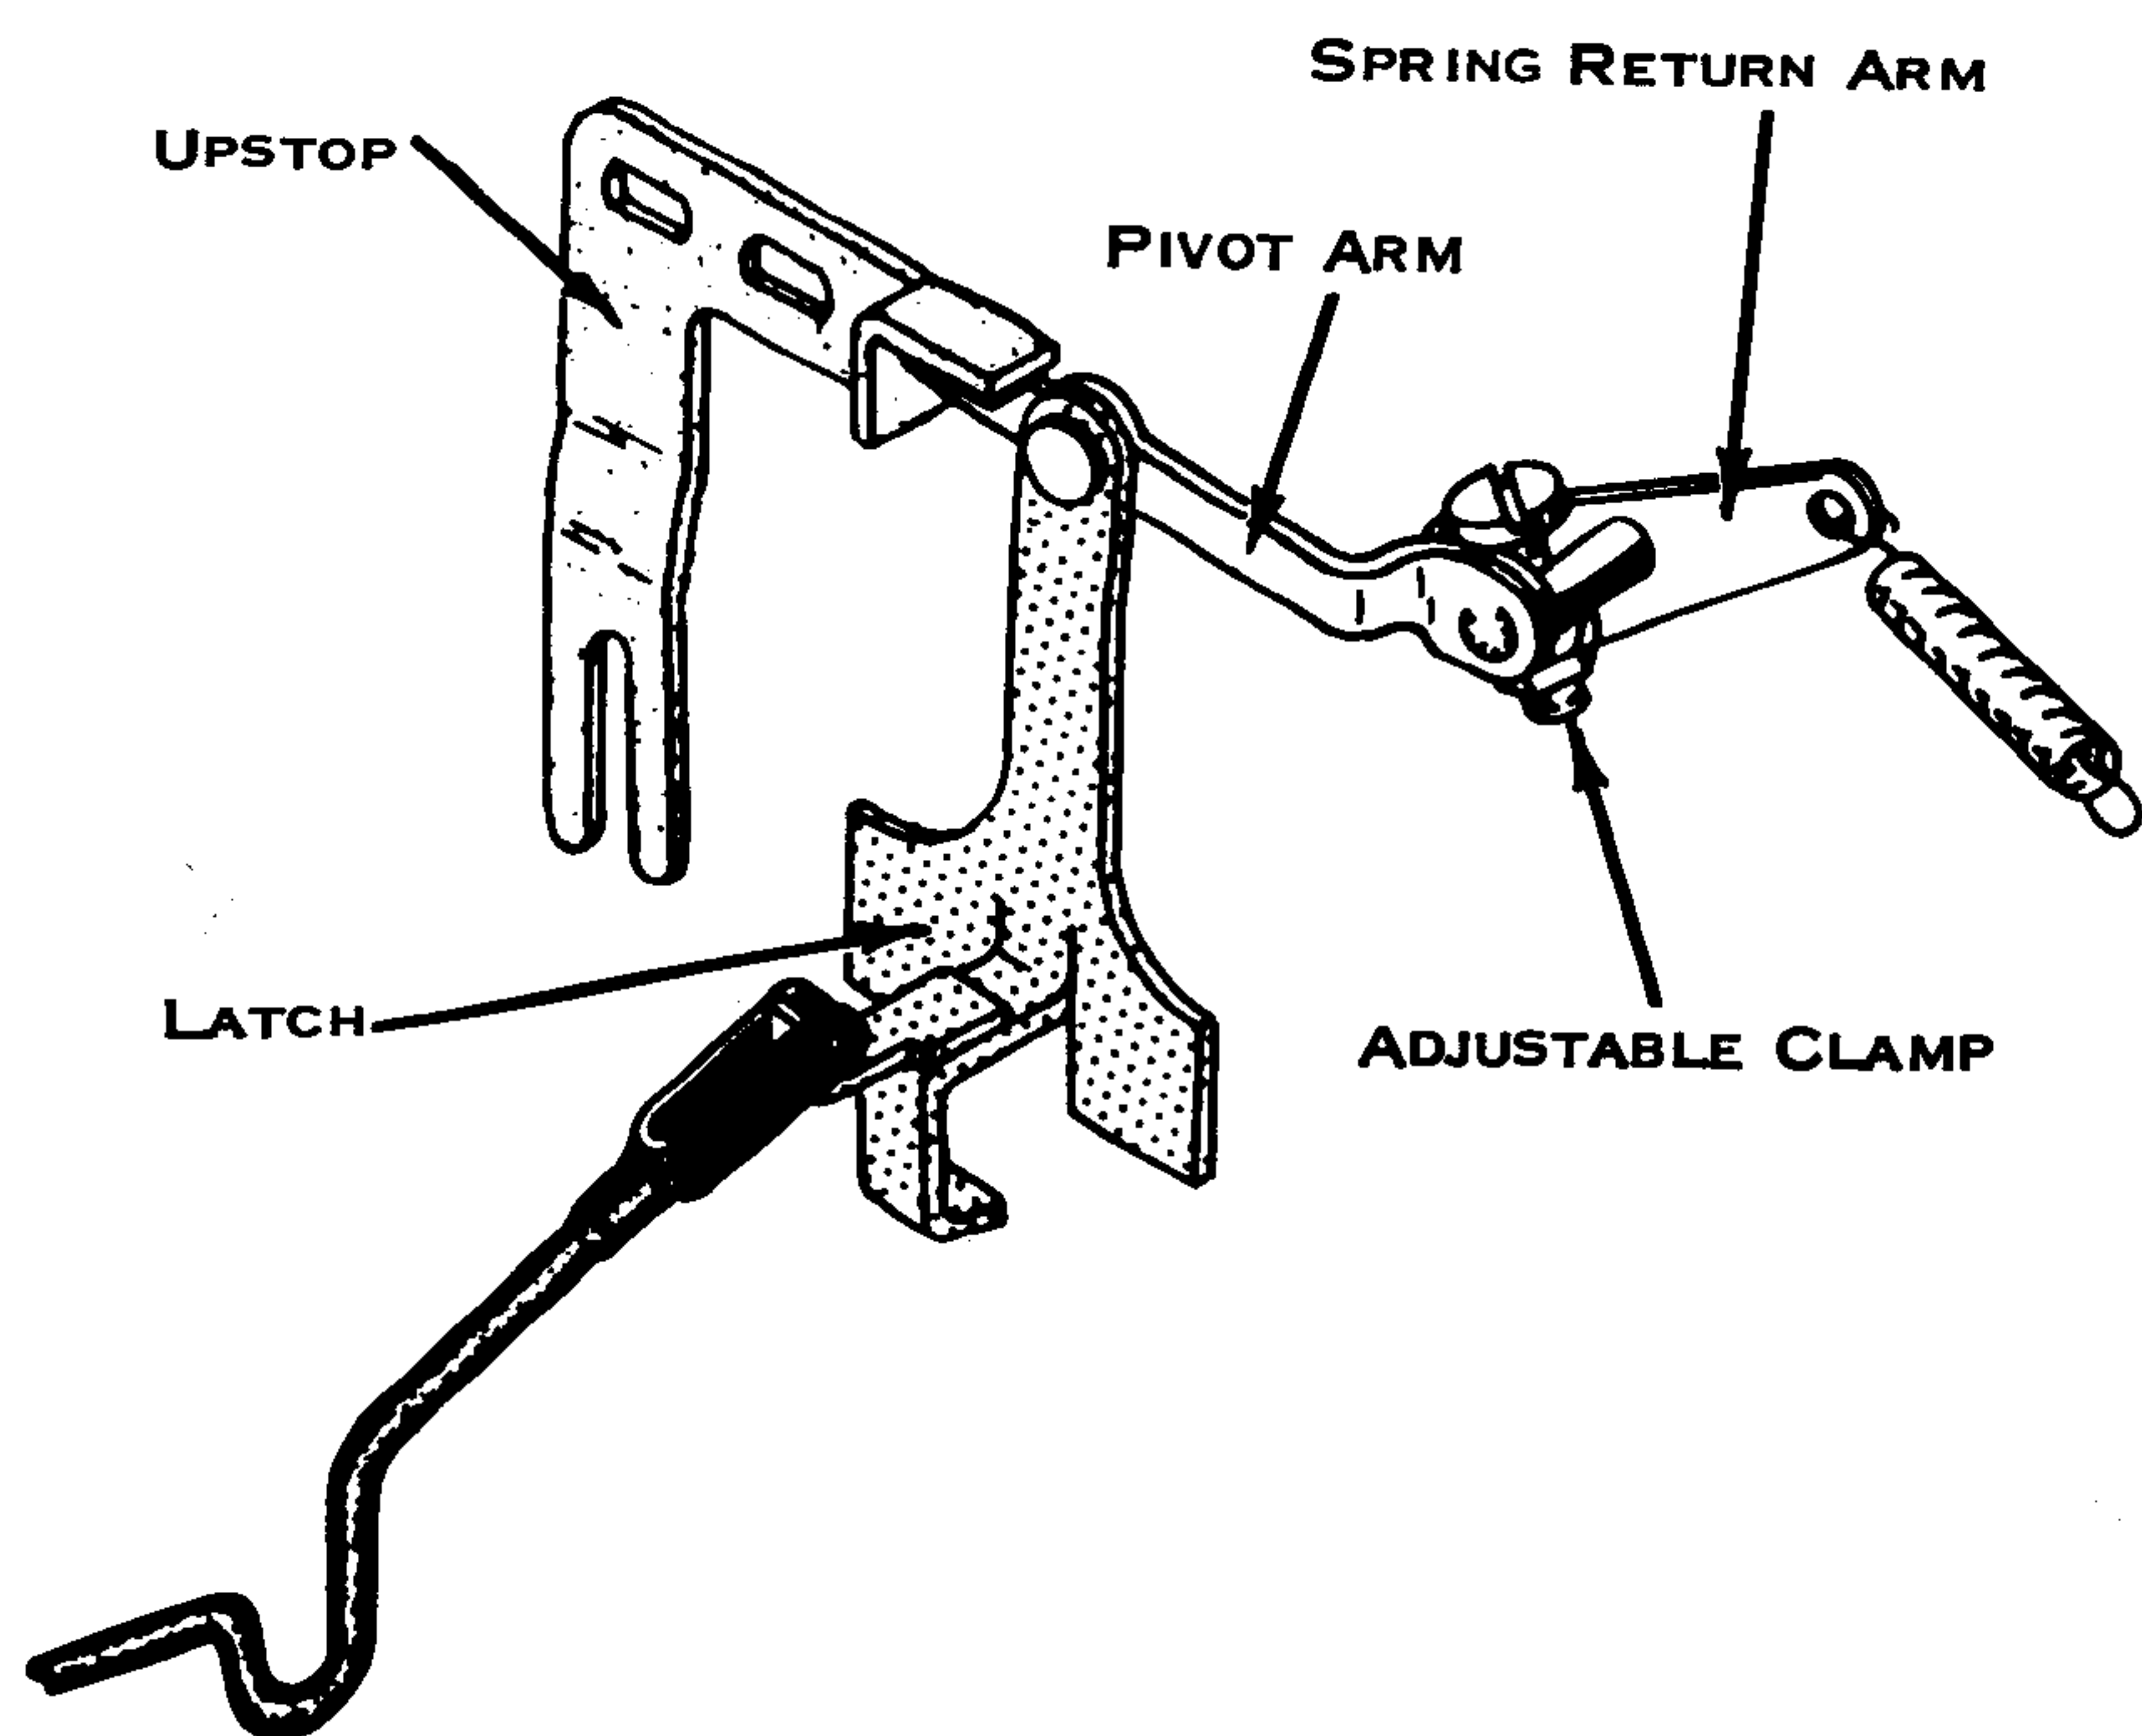

Figure 53. Check Latch Spring Return Arm
- b. Spring Return Arm (Fig. 53) - Position to hold the pivot arm against the upstop.